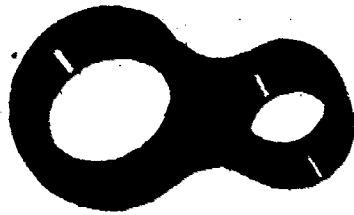

Figure 15. Hook Saddle Component
14. Remove bobbin case opener lever link, (figure 15).